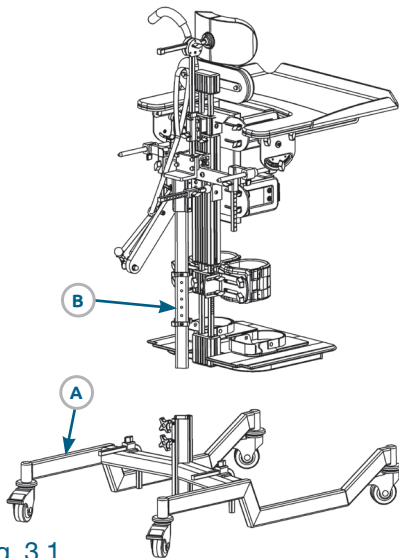

Fig. 3.1
To facilitate transport, the VERTIFLEX standing frame is designed in two sections: the base (A) and the frame (B). (Fig. 3.1)
ASSEMBLY (Fig. 3.1 and 3.2)
DISASSEMBLY (Fig. 3.1 and 3.2)